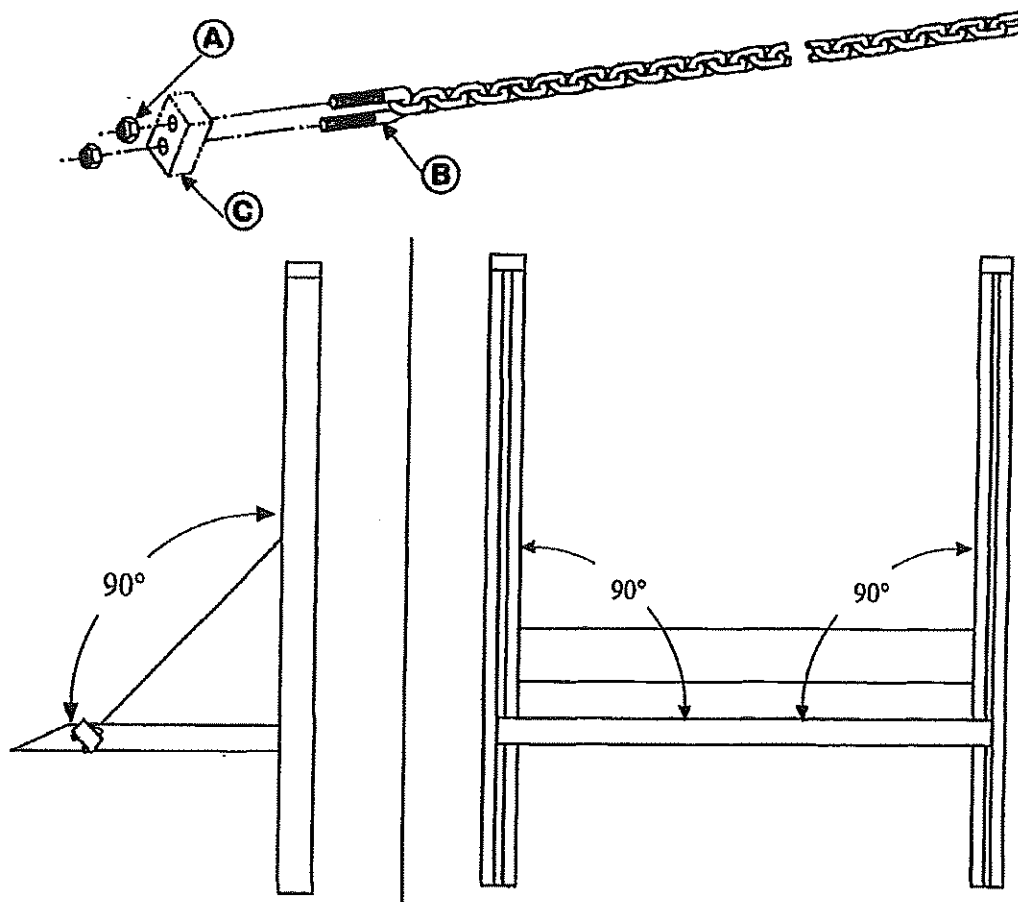

FIG. 2.
2. Check that the platform is level when raised to bed height. If adjustments are necessary, this can be done by adjusting nuts (A) on U-bolt (B) on platform block (C). See Figure 2.